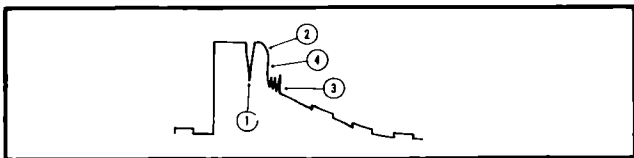

Figure 4-11. RING COUNTER SIGNAL - TP3 - MARGINAL WAVEFORM CONDITIONS.
c. Marginal signal conditions are shown in Figure 4-11 and are described as follows: